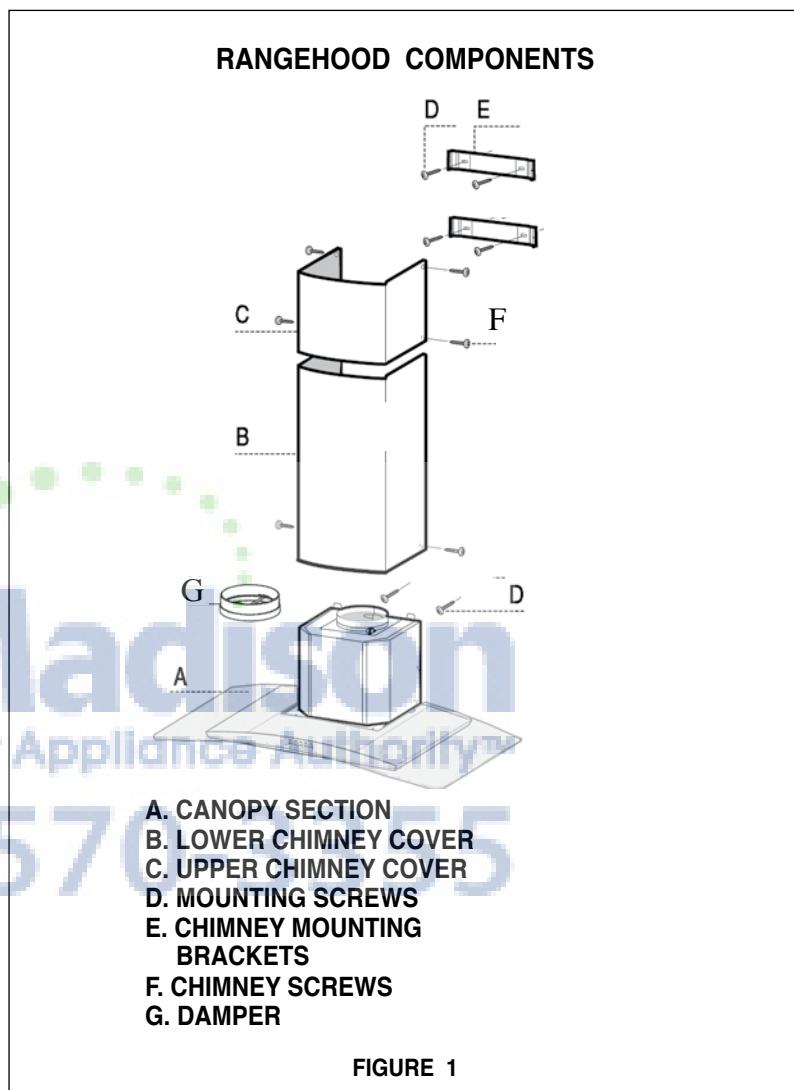

FIGURE 1
4. Place the UPPER CHIMNEY MOUNTING BRACKET (E) on the wall as shown 1/16" from the ceiling, aligning the center notch with the vertical center line. Mark the wall at the centers of the holes in the bracket.
5. Place the LOWER CHIMNEY MOUNTING BRACKET (E) on the wall as shown at 16 1/8" below the upper bracket, aligning the center notch with the vertical center line. Mark the wall at the centers of the holes in the bracket.
6. Install the CHIMNEY MOUNTING BRACKETS (E) on the wall using the MOUNTING SCREWS (D) provided.
7. For the most secure installation, the MOUNTING SCREWS (D) which mount the CANOPY SECTION (A in **FIGURE 1**) should be installed into wood. Mark the wall along the horizontal line 4 9/16" in from the center line on either side (as indicated in **FIGURE 5A or 5B**) and install the MOUNTING SCREWS into the wall leaving about 1/4" gap between the wall and the head of the screw.
5. For ducted installations, the DAMPER (G in **FIGURE 1**) must be attached to the exhaust opening on the top of the CANOPY SECTION. Connect the ductwork and seal all connections with duct tape.
Ductless installations require a **Ductless Conversion Kit** whose components are pictured in **FIGURE 8**. Do not use the **DAMPER (G in FIGURE 1)** for ductless installations. The **LOWER CHIMNEY COVER (B in FIGURE 1)** should be discarded and replaced by a new one with holes (1 in **FIGURE 8**).